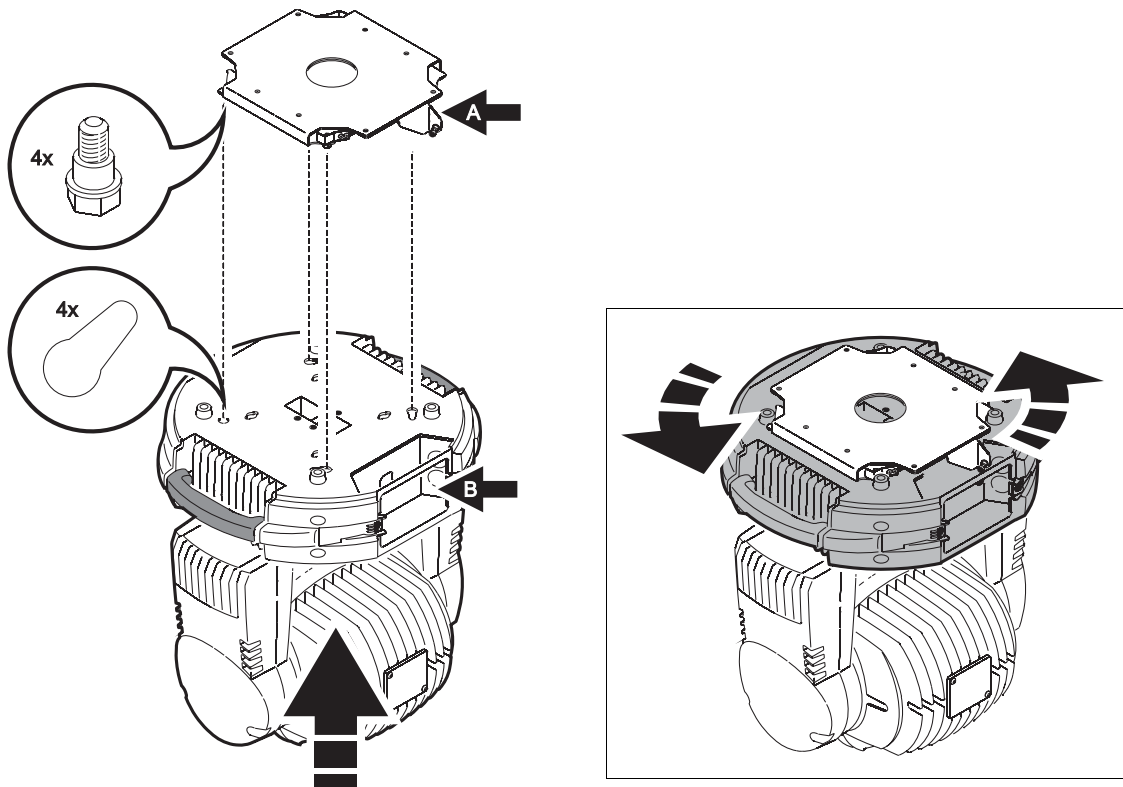

Figure 5: Bayonet mounting in the quick-release bracket
5. See Figure 5. Hold the fixture up to the bracket so that edge **A** of the raised flap slides into corner **B** of the connections recess in the fixture base, then twist the fixture clockwise so that the bayonet pins in the bracket engage fully in the fixture base.